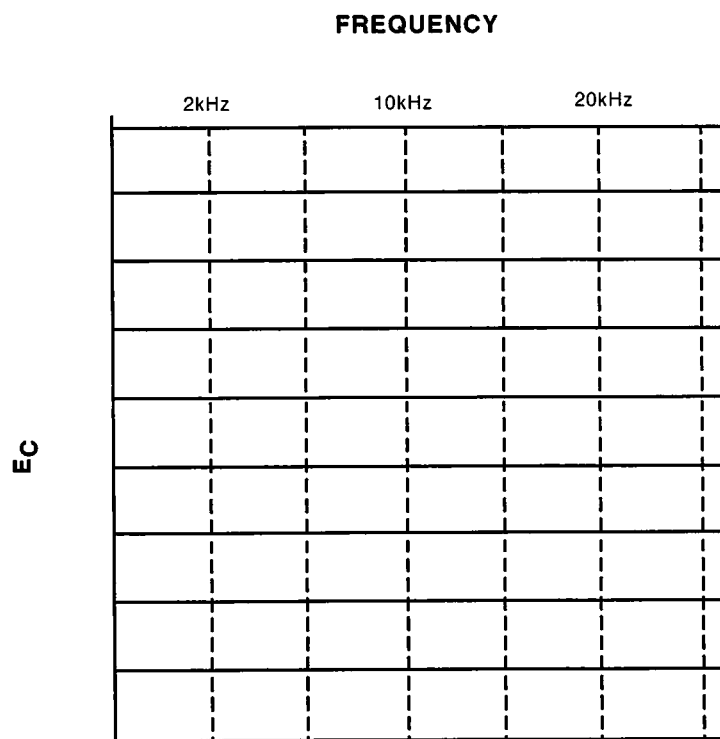

Figure 5-14
34. Refer to Figure 5-14. Establish a scale for the vertical (E_C) axis that allows you to plot your maximum and minimum voltages across most of the graph. Then, plot the values you measured on the graph.
38. Repeat steps 30 through 36 for this new circuit. Plot the new response curve in Figure 5-14.